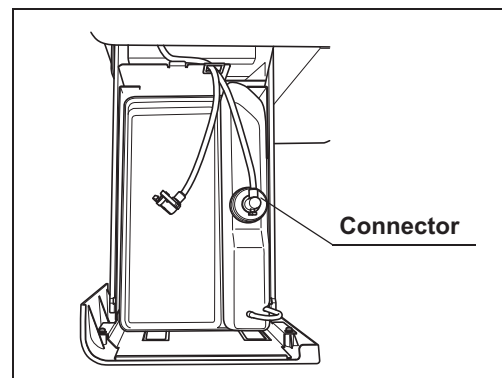

Figure 4.117
- 3 Rotate the connector and orientate the tube as shown in Figure 4.117.